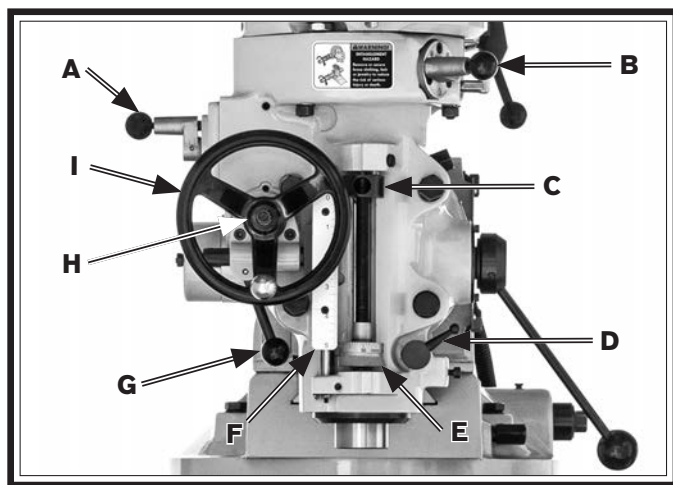

Figure 44. Fine downfeed controls.
Refer to **Figure 44** and the descriptions below to become familiar with the downfeed components that control spindle downfeed travel.
The downfeed stop (see **Figure 44**) sets the depth of spindle travel for repeat operations. The upper edge of the downfeed stop aligns with marks on the downfeed scale to help you set the approximate depth. However, the downfeed scale functions as a general guide only, and is not intended for low-tolerance, precision results.
3. Set auto-downfeed direction pin (see **Figure 44** on **Page 38**) in neutral (middle) position to disengage fine downfeed handwheel from auto-downfeed gears.